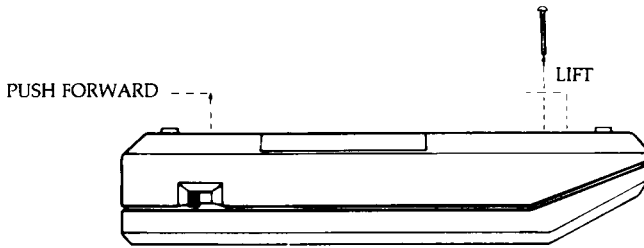
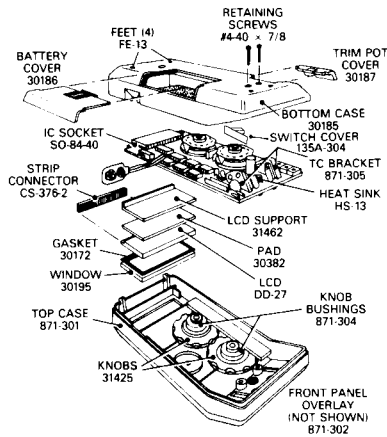

Figure 4-4. Removing the Cover
Figure 4-5. Disassembled Model 871A and Model 872A
2. Grasp the bottom cover at the input jack end and with a lifting and forward pushing motion (see Figure 4-4 and Figure 4-5), carefully remove the bottom cover. While removing the cover, feed the battery connector through the access hole in bottom of the battery compartment.